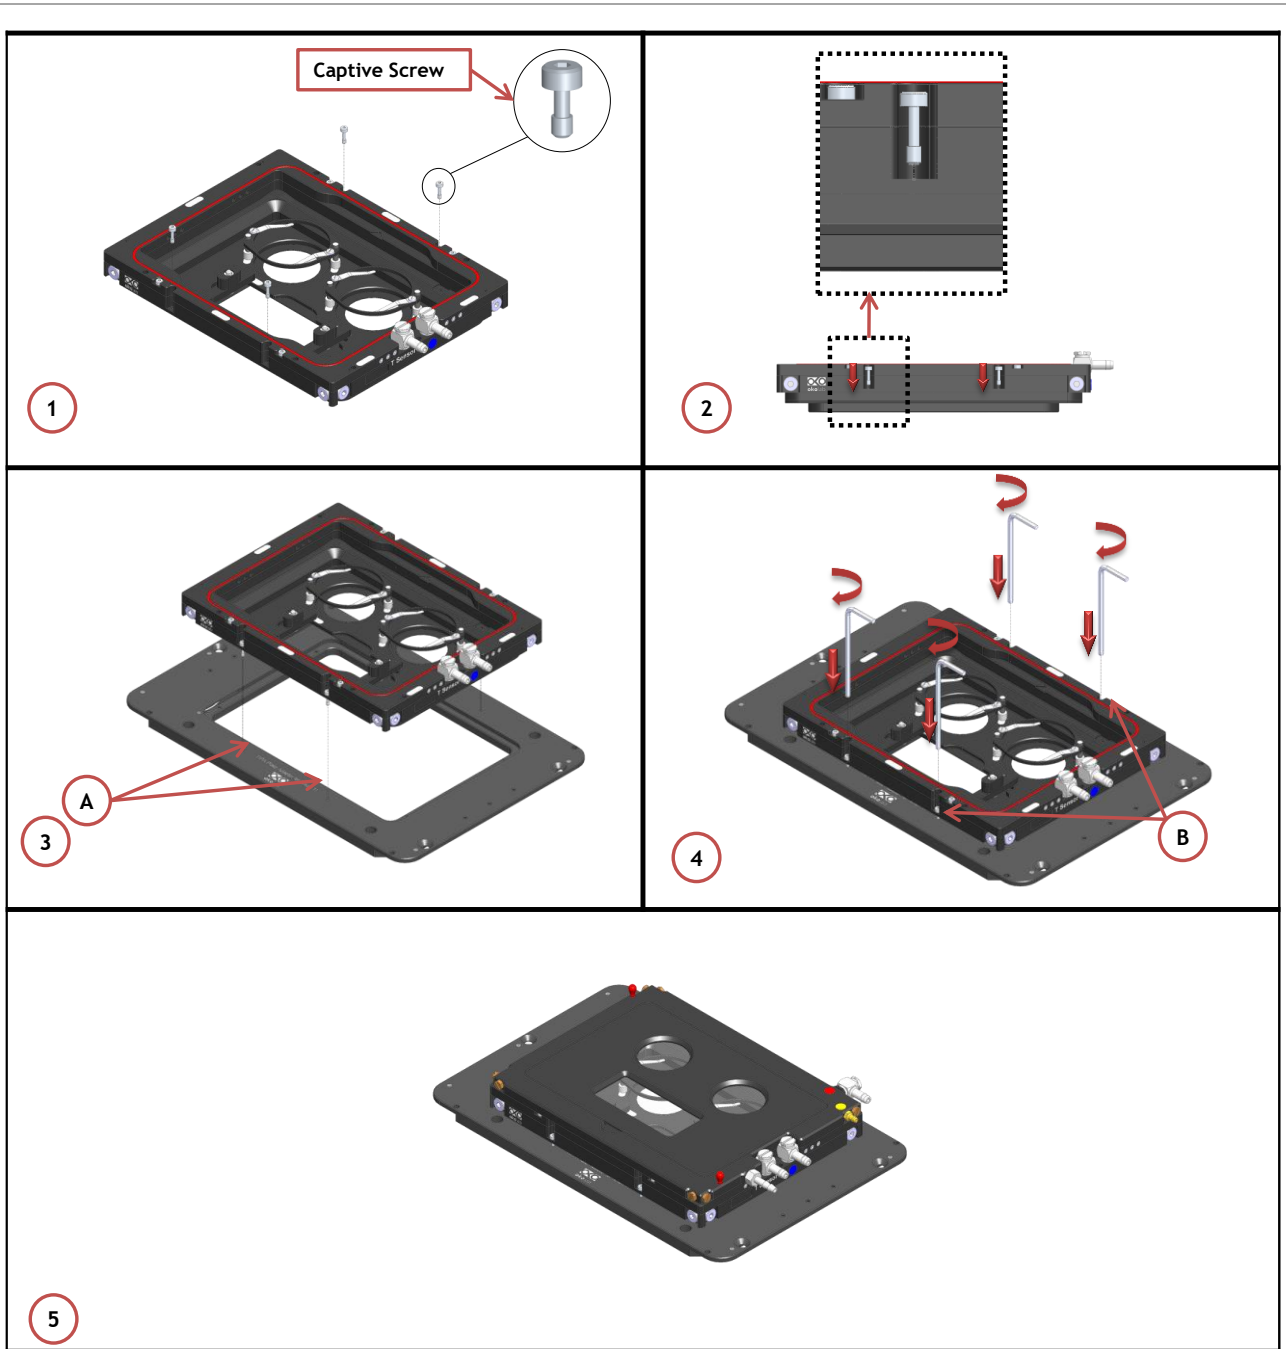

Figure 17. How to assemble the chamber to the adapter.
Follow the steps shown in the images of Figure 17 and listed below in order to correctly install the chamber onto XY stage:
1. See Figure 17 Images 1 and 2 for placing the captive screws in the proper housings
2. Place the chamber on the adapter as shown in Figure 17 Image 3
4. Figure 17 Image 5 shows the chamber fixed on the adapter.